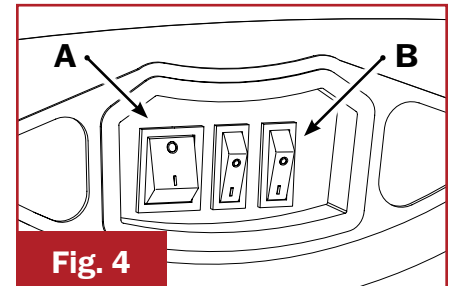

Fig. 4
1. Make sure that the main switch (A) is in the [OFF] position and plug in the machine (Fig. 4).
3. Turn the main switch (A) to [ON] position; the refrigerant group unit will automatically start (Fig. 4).
4. To start the mixing action, turn the mixing system switch (B) to [ON] position. There is a switch for each bowl (Fig. 4).